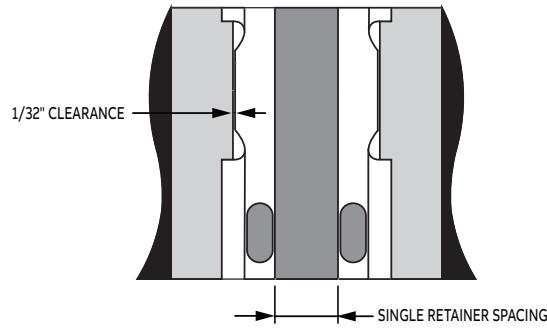

Figure 3 - Pad clearance
3. Insert a pad into the retainer slots. Clamp down the pad while ensuring a $1/32$ " clearance referencing Figure 3. Place a new retainer on the opposite side from the first retainer. Secure the new retainer by plug welding through a minimum of 3 holes.
5. Place the two single retainers back-to-back in the gap between the first and last pads referencing Figure 3. Repeat Step 3. The space between the single retainers will vary slightly according to the actual pulley diameter. However, the gap should not exceed the limits found in the pre-installation instructions. Otherwise, non-standard installation is required.